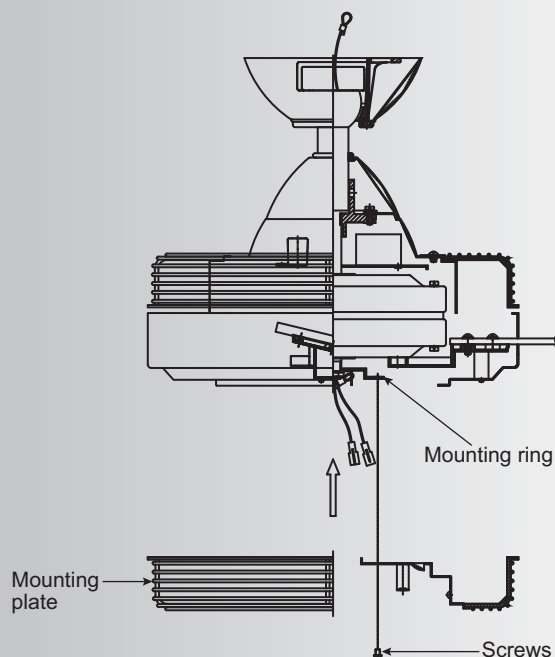

Fig. 19
1. Loosen the two screws on the mounting ring attached to the motor shaft and "remove" and save the third screw. (Fig. 19)